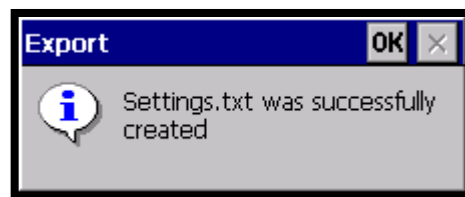

Figure 106. Confirmation of Saved Settings
- This will write the current settings to an ASCII text file named **Settings.txt**, which will be saved in the currently selected storage location. Any previous **Settings.txt** file will be overwritten (Figure 106). Change the name or save the file if it is desired to save the settings. Save this file on the USB flash drive in the root file location.